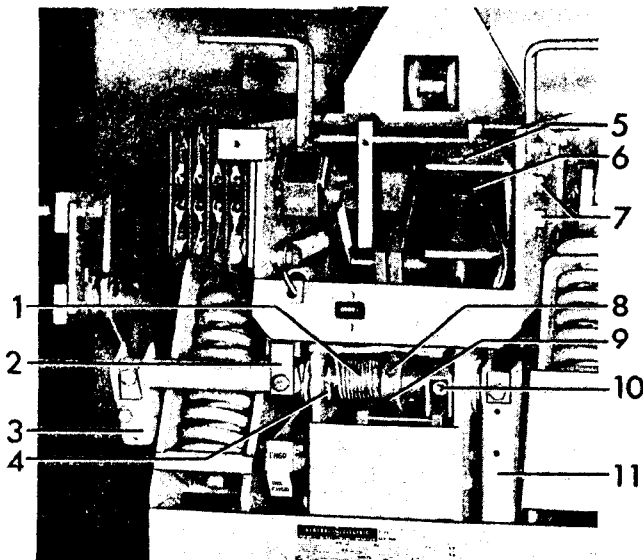

Figure 11. (8040934) Auxiliary Switch and Trip Coil
* Refer to Figure 7. The trip armature (4) should have $1/16"$ to $3/16"$ travel before the trip latch (8) starts to move, plus $1/32"$ minimum overtravel after tripping. This can be adjusted by moving the trip coil support (2) and/or by adjusting the trip arm screw (10) Figure 11. A locking screw located behind the trip arm screw must first be loosened. Retighten locking screw after making adjustment.